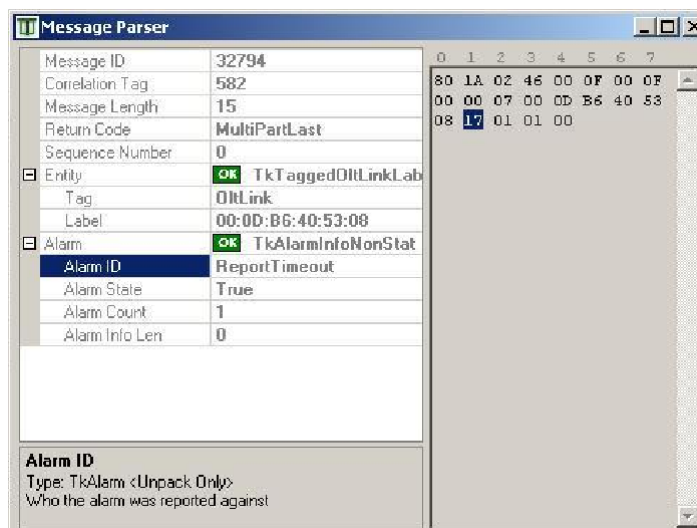

Figure 4-3 Message Parse Window
- ✓ Select the bottom of the menu and click Parsed Message Data: New Window; display the message parse window shown in the Figure 4-3.
- ✓ The left side of Figure 4-3 displays the elements of alarm message format; select one element, then matching bytes will be automatically highlighted on the right window panel and the alarm type will display on the right side of Alarm ID. In the example of Figure 4-3, the type of alarm is MPCP timeout alarm with Alarm ID of 17.